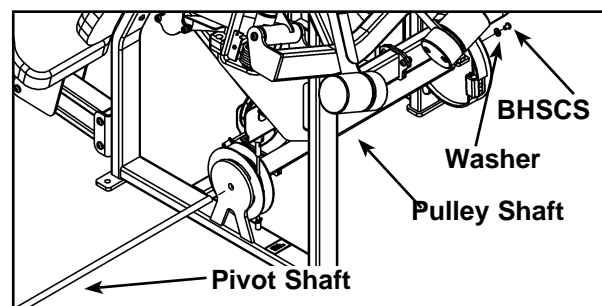

Figure 3
- H. Remove one of the two BHSCS (Button Head Socket Cap Screws) securing the pivot shaft. See Figure 3.
- I. Carefully remove pivot shaft and pulley shaft. See Figure 3. **NOTE:** Be extremely careful when removing shaft so you don't ruin the threads on the shaft.
- M. Carefully attach pulley shaft using the pivot shaft and BHSCS removed in steps 4H and 4I. See Figure 3.